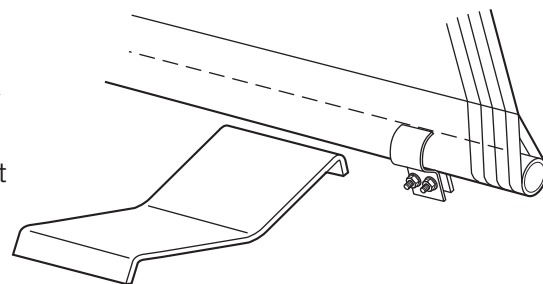

Figure 22
16) See Figure 22. Orient the tarp cradles (3) one third in from each end of the tub and 1/2" below the fixed tube. Mark the tub with the bracket location.
18) Weld the tarp cradles (3) in place.